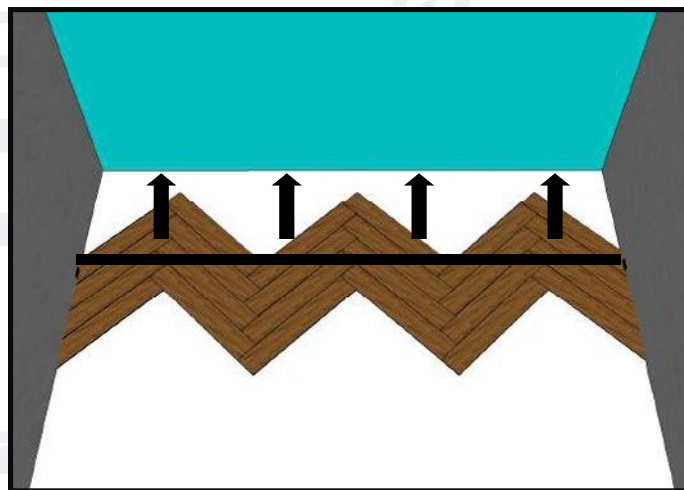

Figure 9
Step 8: Complete 4 rows by repeating steps 5 to 7. Measure, mark, and then cut the first four rows to achieve a cut parallel to the blue wall (**Figure 9**). Move the cut panels along the blue wall (**Figure 9**).